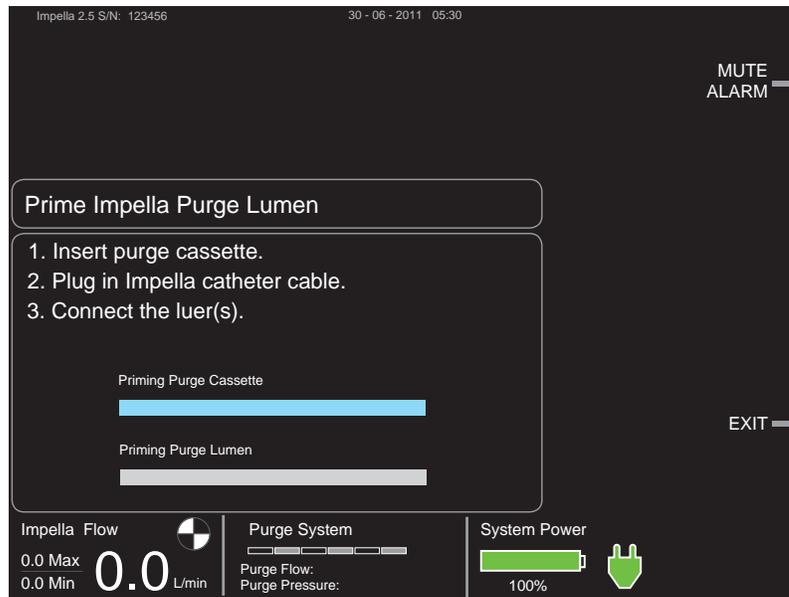

Figure 5.7 Priming the Impella Purge Lumen
- Once the purge cassette is primed and the controller detects that the connector cable is plugged in, it prompts you to connect the luer(s) to the Impella® Catheter. (See Figure 5.7)